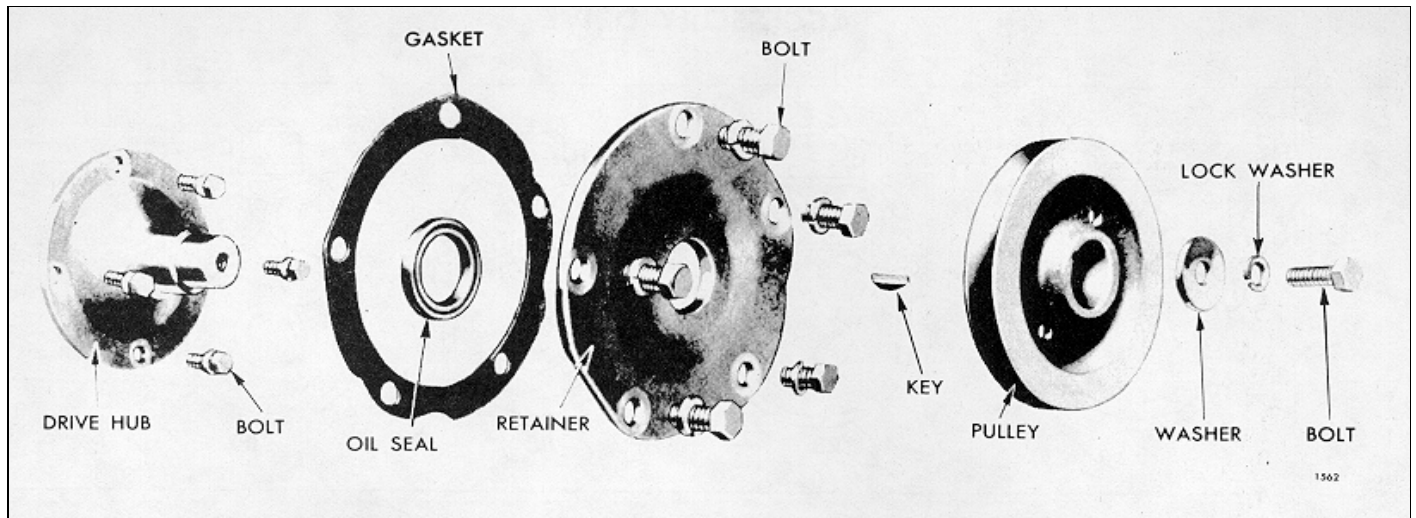
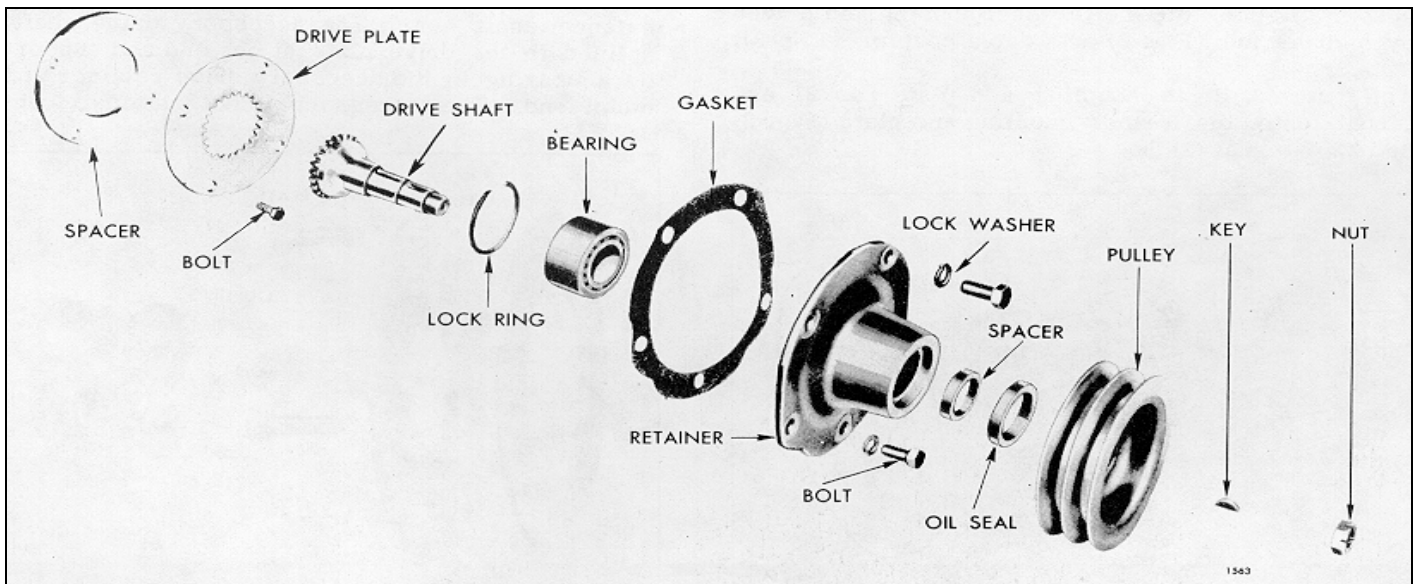

Fig. 4 - Components of Accessory Drive for Belt Driven Accessory (Drive Hub Type)
Fig. 5 - Components of Accessory Drive for Belt Driven Accessory (Drive Plate Type)
Belt driven accessories, such as battery charging generators or air compressors, are driven off the camshaft or balance shaft gears by a drive hub, and pulley (Fig. 4), or a drive plate, drive shaft, and pulley (Fig. 5).
In the first arrangement, illustrated in Fig. 4, the drive pulley hub is bolted to the camshaft or balance shaft gear. The oil seal retainer is bolted to the flywheel housing, and the pulley is keyed to the drive hub shaft which extends through the oil seal retainer.
3. Remove bolt and washer (Fig. 4), or nut (Fig. 5), retaining the pulley on the drive shaft.
6. Remove the accessory drive shaft, drive plate and spacer (Fig. 5), or drive hub (Fig. 4) in manner similar to that outlined in Steps 3 and 4 under removal of the direct gear driven type accessory drive.
7. Remove the snap ring and ball bearing from the accessory drive shaft retainer assembly shown in Fig. 5.
Inspect the ball bearing used to support the accessory drive shaft shown in Fig. 5. Shielded bearings must not be washed; dirt may be washed in and the cleaning fluid could not be entirely removed from the bearing. Wipe the outside of the bearing clean; then hold the inner race and revolve the outer race slowly by hand. If bearing is worn or does not roll freely, replace the bearing.